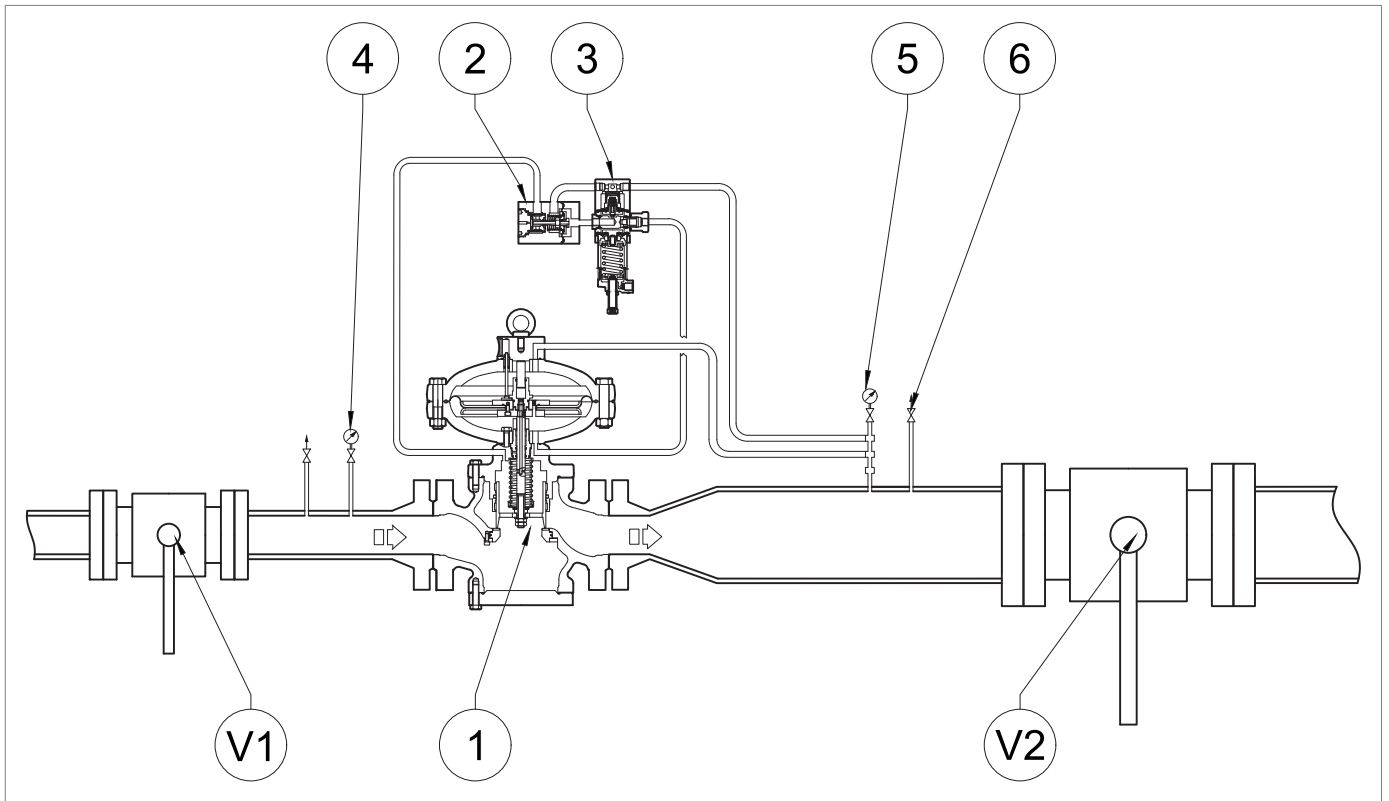

Fig. 8.29. Commissioning the regulator
1	<p>Increase the downstream pressure to the slam-shut valve by turning the adjustment screw (10) on the pilot (2) of the main regulator (1) to check the correct calibration.</p> <p>NOTICE!</p> <p>Check the pressure referring to the pressure gauge (Fig. 8.29, ref. 5) downstream of the main regulator.</p> <p>If the slam-shut valve:</p> <ul style="list-style-type: none"> trips before the expected pressure value: screw in (clockwise) the adjustment ring nut (13) so as to further compress the spring (11); does not trip at the expected pressure value: unscrew (anti-clockwise) the adjustment ring nut (13) so as to relieve the spring (11).
2	By opening the drain cock (Fig. 8.29, ref. 6), decrease the pressure in the downstream section to the calibration value of the main regulator.
3	Close the drain cock (Fig. 8.29, ref. 6).